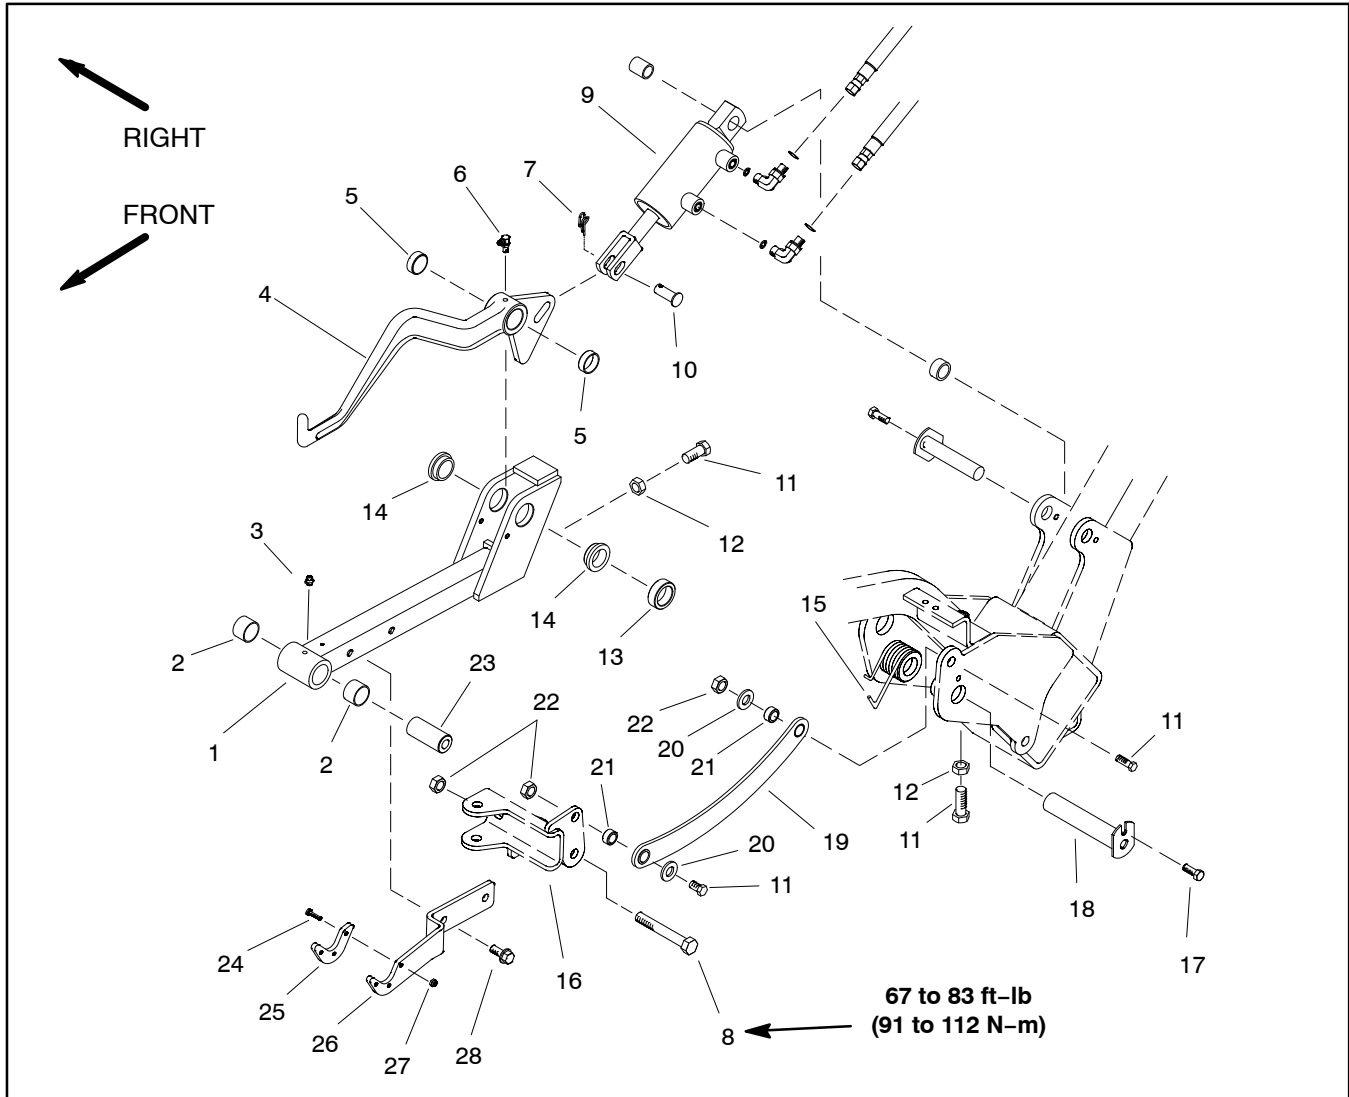

Figure 11
3. Disassemble front lift arm as needed using Figures 11 and 12 as guides.
1. Assemble front lift arm using Figures 11 and 12 as guides.
A. If clevis (item 16 in Fig. 11) was removed from front lift frame, torque cap screw from **67 to 83 ft-lb (91 to 112 N-m)**.
3. Check that when raised to the transport position, the cutting units are secured by the transport plate. If necessary, loosen two (2) cap screws (item 28 in Fig. 11) and reposition transport plate.